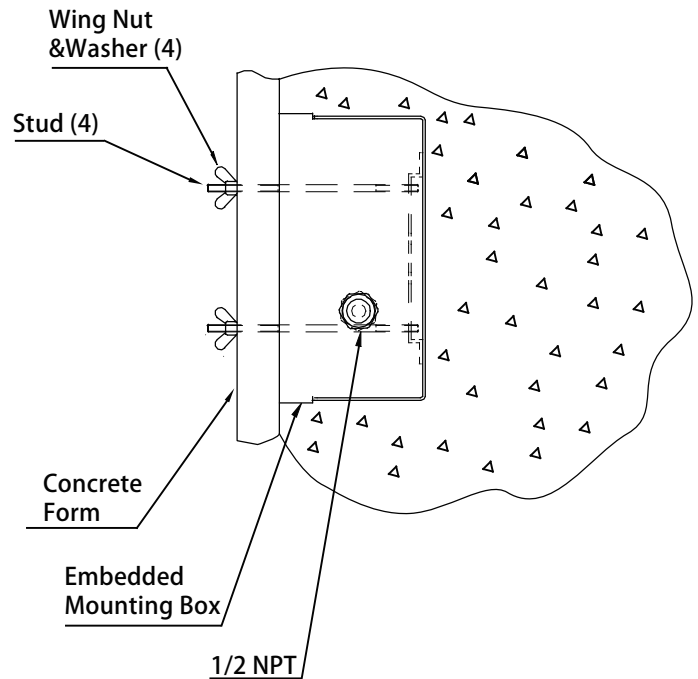

Figure 2
2. Fasten Embedded Mounting Box to the Concrete Form using (4) Wing Nuts & Washers and (4) Studs provided. See Figure 2.
5. Remove the (4) Wing Nuts & Washers and (4) Studs before removing Concrete Form.